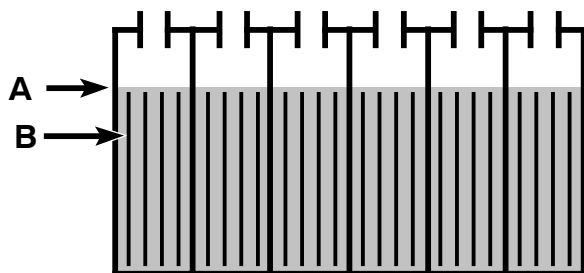

FIG. 21
The electrolyte level (A) should slightly cover the battery plates (B). Add distilled water as needed. DO NOT OVERFILL, the fluid may expand and overflow while charging. Replace cell caps before charging (Figure 21).